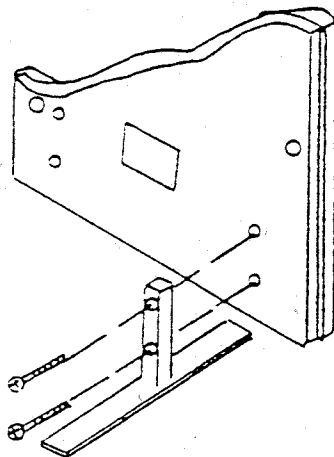

Figure 1
- A. Stand the speakers upright as shown in Figure 1. We suggest you have a second person hold the speakers during installation to ensure they do not fall.